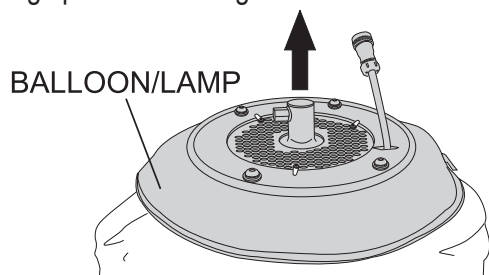

Figure 30. Balloon/Lamp Placement
3. Rotate the balloon/lamp base assembly so that the filter is facing upwards. See Figure 30.